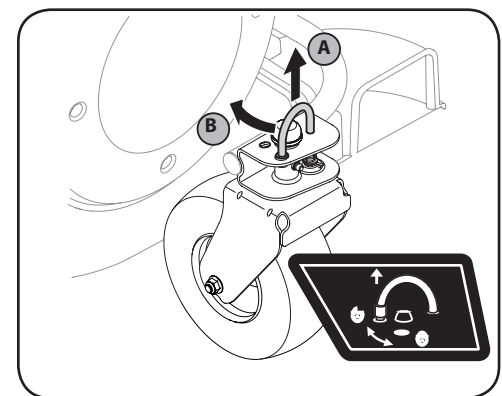

Figure 3-5
1. To lock the caster, lift the lock pin, see A in Figure 3-5, and rotate it rearward, releasing it into the larger hole, see B in Figure 3-5.